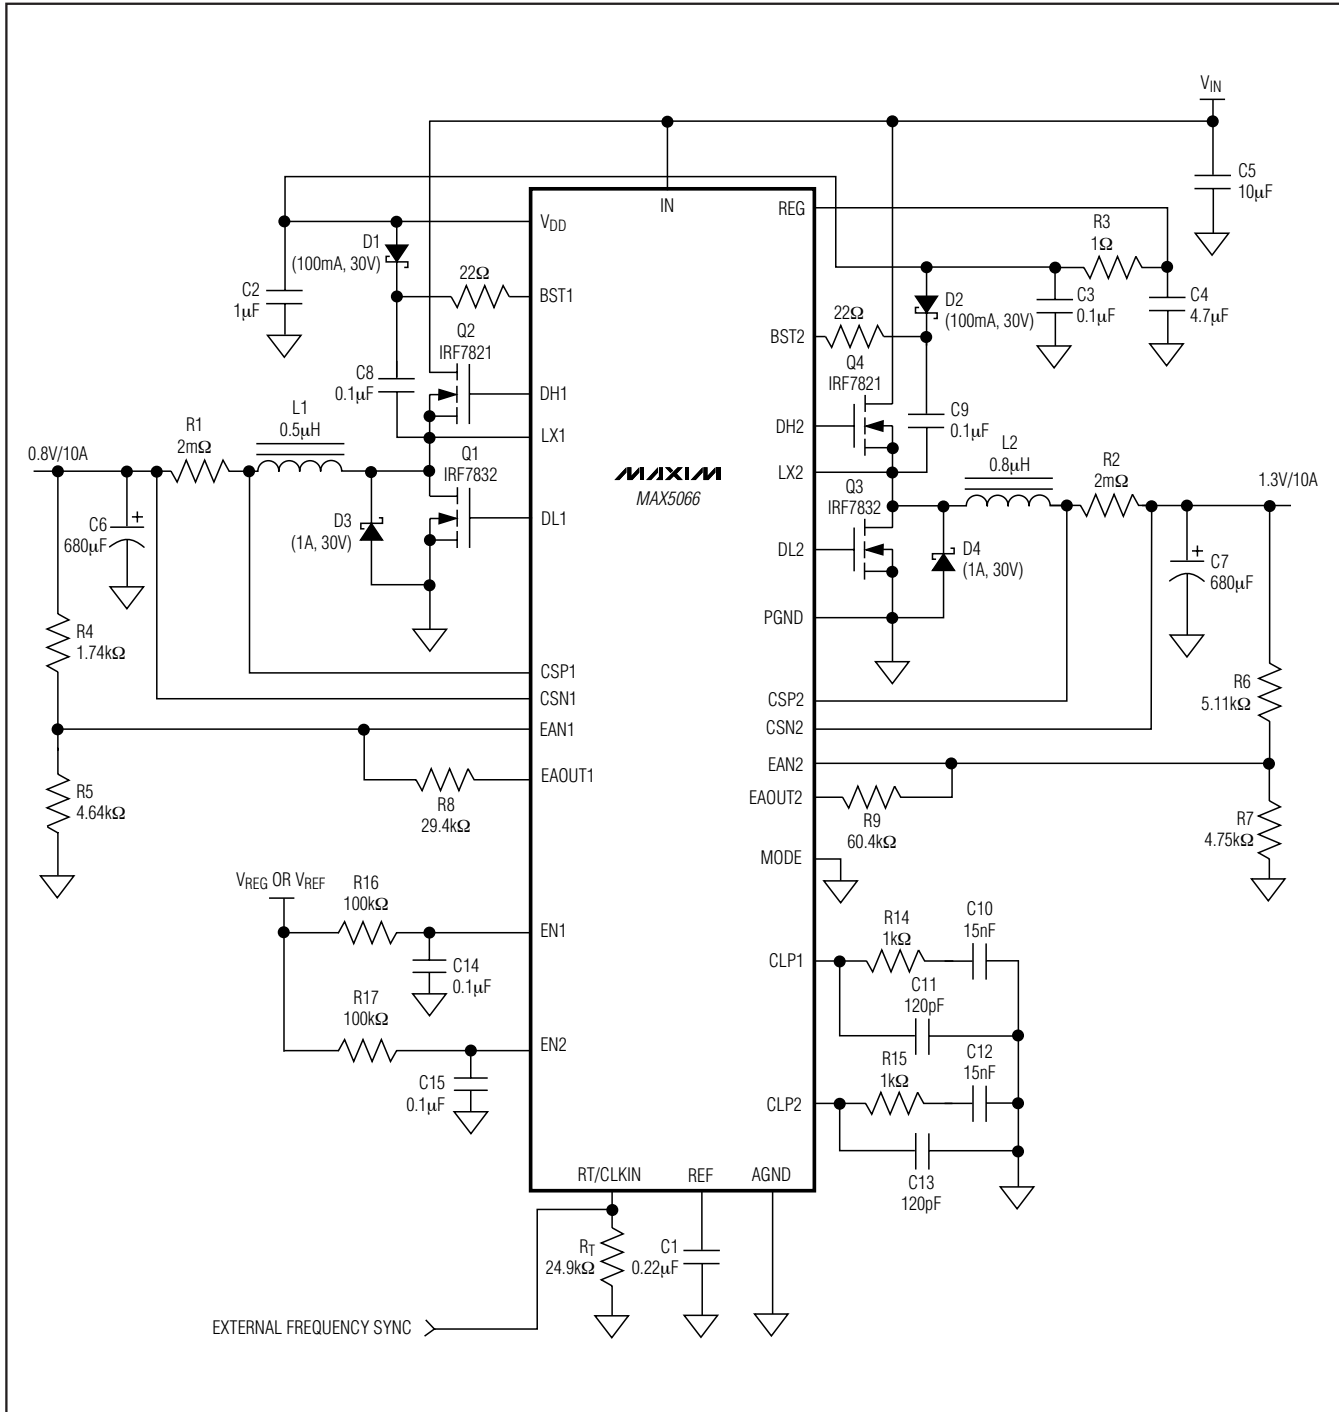

Figure 6. Dual-Output Buck Regulator
where I_{IN} is the quiescent supply current into IN (4mA, typ), Q_{GQ1} , Q_{GQ2} , Q_{GQ3} , Q_{GQ4} are the total gate charges of MOSFETs Q1 through Q4 at $V_{GS} = 5V$ (see Figure 6), and f_{SW} is the switching frequency of each individual phase.
diodes D1 and D2 (see Figure 6). Connect a 0.1µF ceramic capacitor between BST_ and LX_.
Minimize the trace inductance from BST_ and VDD to rectifier diodes, D1 and D2, and from BST_ and LX_ to the boost capacitors, C8 and C9 (see Figure 6). This is accomplished by using short, wide trace lengths.
The compensation network at the current-error amplifiers (CLP1 and CLP2) provides an inherent soft-start of the output voltage. It includes (R14 and C10) in parallel with C11 at CLP1 and (R15 and C12) in parallel with C13 at CLP2 (see Figure 6). The voltage at the current-error amplifier output limits the maximum current available to charge the output capacitors. The capacitor at CLP_ in conjunction with the finite output-drive current of the current-error amplifier yields a finite rise time for the output current and thus the output voltage.
An internal oscillator generates the 180° out-of-phase clock signals required for both PWM modulators. The oscillator also generates the 2Vp-p voltage ramps necessary for the PWM comparators. The oscillator frequency can be set from 200kHz to 2MHz by an external resistor (RT) connected from RT/CLKIN to AGND (see Figure 6). The equation below shows the relationship between RT and the switching frequency:
output, voltage-regulating applications where the duty cycle is less than 50%, choose high-side MOSFETs (Q2 and Q4, Figure 6) with a moderate $R_{DS(ON)}$ and a very low gate charge. Choose low-side MOSFETs (Q1 and Q3, Figure 6) with very low $R_{DS(ON)}$ and moderate gate charge. The driver block also includes a logic circuit that provides an adaptive nonoverlap time (30ns typical) to
where I_{MAX} is the full load current of the regulator. V_{OUT} is the output voltage of the same regulator and C_{IN} is C5 in Figure 6. The ESR of the input capacitors wastes power from the input and heats up the capacitor. Reducing the ESR is important to maintain a high overall efficiency and in reducing the heating of the capacitors.
where I_{LOAD_STEP} is the step in load current and $t_{RESPONSE}$ is the response time of the controller. Controller response time depends on the control-loop bandwidth. C_{OUT} is C6 and C7 in Figure 6.
where ΔV_{OUT} is the allowable drop in voltage from no load to full load. R_F is R8 and R9, R1 is R4 and R6, R2 is R5 and R7 in Figure 6.
For stability of the current loop, the amplified inductor-current downslope at the negative input of the PWM comparator (CPWM1 and CPWM2) must not exceed the ramp slope at the comparator's positive input. This puts an upper limit on the current-error amplifier gain at the switching frequency. The inductor current downslope is given by V_{OUT}/L where L is the value of the inductor (L1 and L2 in Figure 6) and V_{OUT} is the output voltage. The amplified inductor current downslope at the negative input of the PWM comparator is given by:
where R_{SENSE} is the current-sense resistor (R1 and R2 in Figure 6) and g_M × R_{CF} is the gain of the current-error amplifier (CEA₁) at the switching frequency. The slope of the ramp at the positive input of the PWM comparator is 2V × f_{SW}. Use the following equation to calculate the maximum value of R_{CF} (R14 or R15 in Figure 6).
where C_{CF} is C10 and C12 in Figure 6.
where C_{CFF} is C11 and C13 in Figure 6.